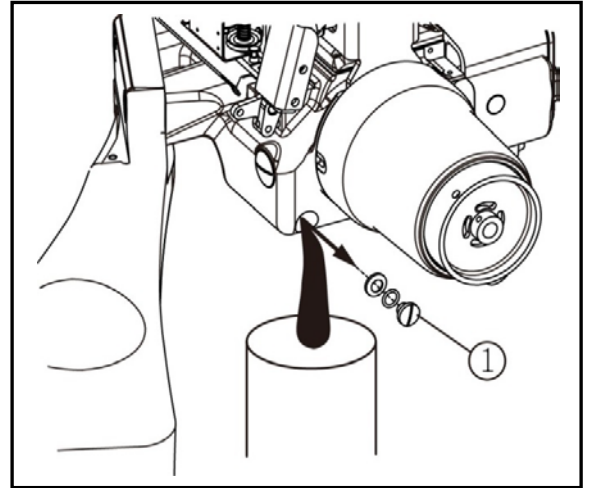

Fig. 20
- (1) Put oil containers under the screws ① and ②.
- (2) After removing screws ① and ②, drain oil respectively.
- (3) Reset the screws ① and ②.
- (4) Refill the new oil. (See "4.2 Lubrication")
- (Fig. 20 & 21)